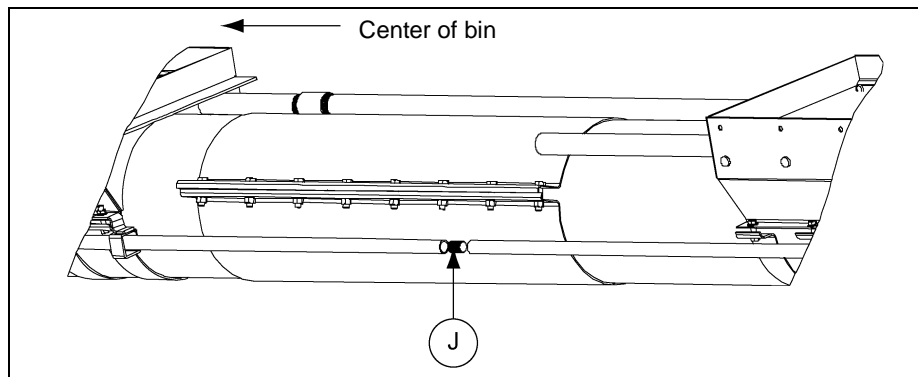

Figure 4Z
2. Connect the two (2) clutch control rods by threading the 1/2" internal pipe connector (J) halfway onto the rod attached to the centerwell. Bring the other clutch control rod up to it by running the rod through the clutch control pipe position lock in the bin flange, threaded end first and making sure that the rod is contained by the guides on the intermediate wells. Then thread the rod onto the remaining threads on the coupler. (See Figure 4Z.)